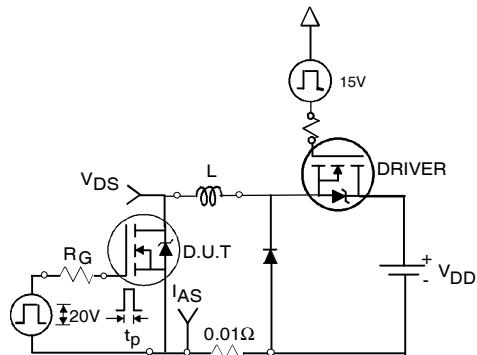

Fig 12a. Unclamped Inductive Test Circuit
3. Equation below based on circuit and waveforms shown in Figures 12a, 12b.
- ③ $I_{SD} \leq 101\text{A}$, $\text{di/dt} \leq 210\text{A}/\mu\text{s}$, $V_{DD} \leq V_{(BR)DSS}$, $T_J \leq 175^\circ\text{C}$
- ④ Pulse width $\leq 400\mu\text{s}$; duty cycle $\leq 2\%$.
- ⑤ C_{oss} eff. is a fixed capacitance that gives the same charging time as C_{oss} while V_{DS} is rising from 0 to 80% V_{DSS} . Refer to AN-1001
- ⑥ Calculated continuous current based on maximum allowable junction temperature. Package limitation current is 95A.
- ⑦ Limited by T_{Jmax} , see Fig.12a, 12b, 15, 16 for typical repetitive avalanche performance.